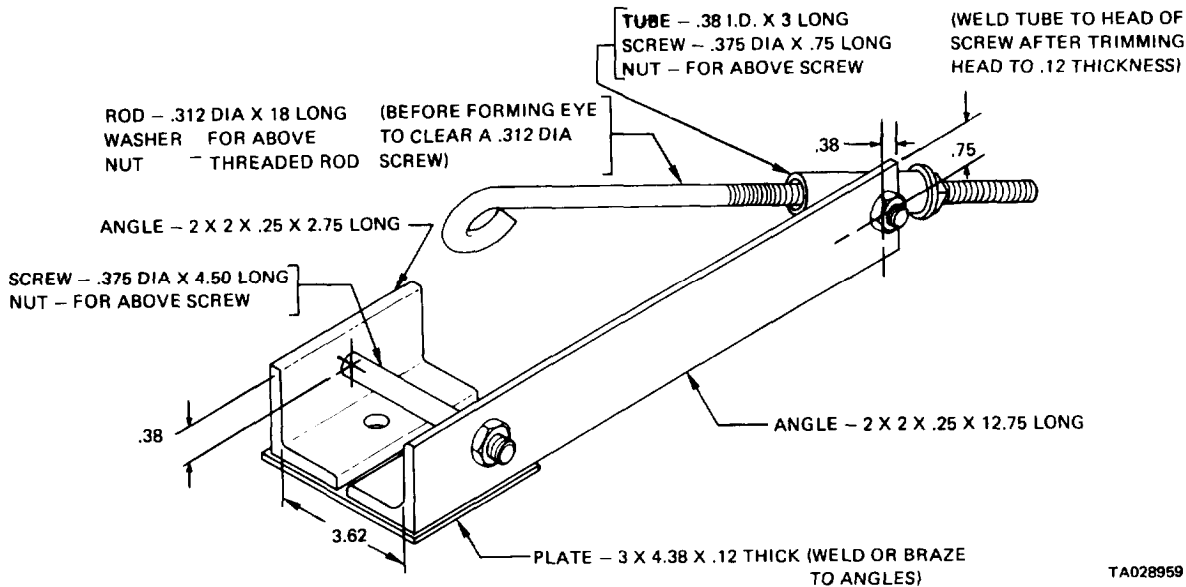

Figure 14-19. Test Stand Mounting Adapter.
h. To mount the alternator on the test stand. It will be necessary to make an adapter. Instructions for making the adapter are shown in figure 14-19.